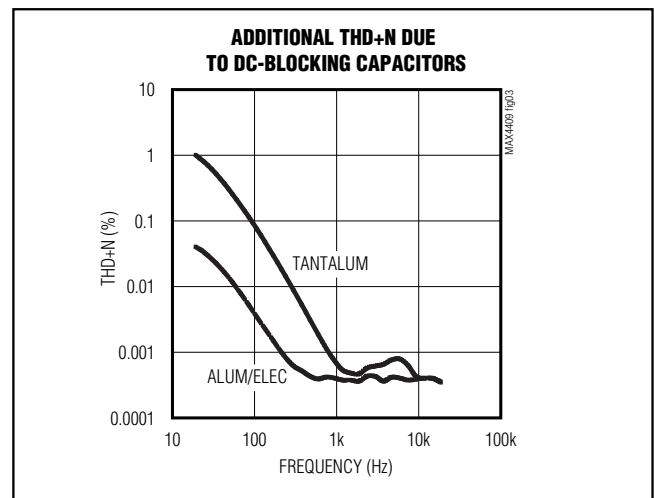

Figure 3. Distortion Contributed by DC-Blocking Capacitors
- The voltage coefficient of the DC-blocking capacitor contributes distortion to the reproduced audio signal as the capacitance value varies as a function of the voltage change across the capacitor. At low frequencies, the reactance of the capacitor dominates at frequencies below the -3dB point and the voltage coefficient appears as frequency-dependent distortion. Figure 3 shows the THD+N introduced by two different capacitor dielectric types. Note that below 100Hz, THD+N increases rapidly.